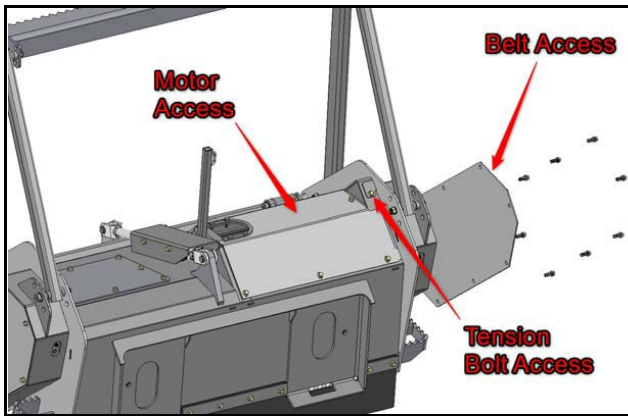

Figure 10
1. Remove 3 access panels: belt access, motor access, tension access [Figure 10].